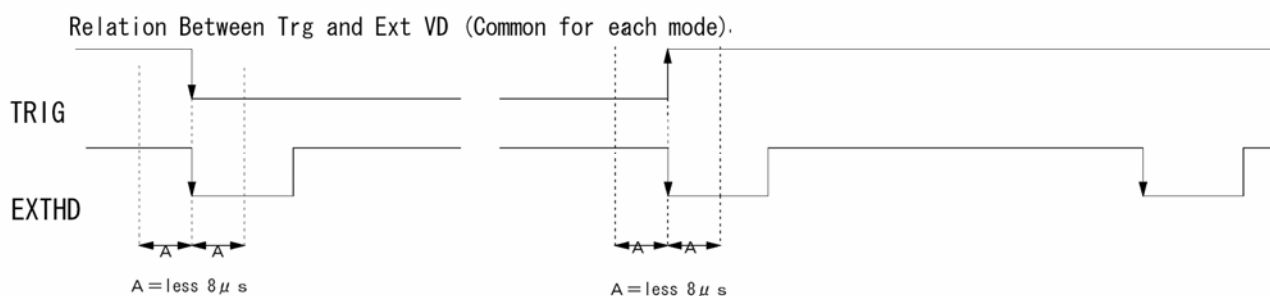

Fig. 18. Extern Trigger/HD Timing requirements.
The accumulation is HD synchronously accumulation. The accumulation starts at the first HD after the trigger leading edge. To avoid the $<1H$ jitter caused by this delay, synchronize the external trigger falling and rising edge to HD as shown in fig. 18. below. The trigger level translations should be placed inside A. $2 \times 8 \mu\text{s}$.
- The start of exposure will start synchronized to the internal H signal. The start may be shifted max 1H. To avoid this shift (1 H jitter), synchronize the camera to an external HD and make sure that the trigger pulse aligns to the HD as shown in fig. 18.
- With HC=0 the start of exposure will start synchronized to the internal H signal. The start may be shifted max 1H. To avoid this shift (1 H jitter), synchronize the camera to an external HD and make sure that the trigger pulse aligns to the HD as shown in fig. 18. With HC=1 the exposure will start immediately.
- The exposure will start synchronized to the internal H signal, the start of exposure may be shifted max 1H. To avoid this shift (jitter), synchronize the camera to an external HD and make sure that the trigger pulse aligns to the HD as shown in fig. 18.